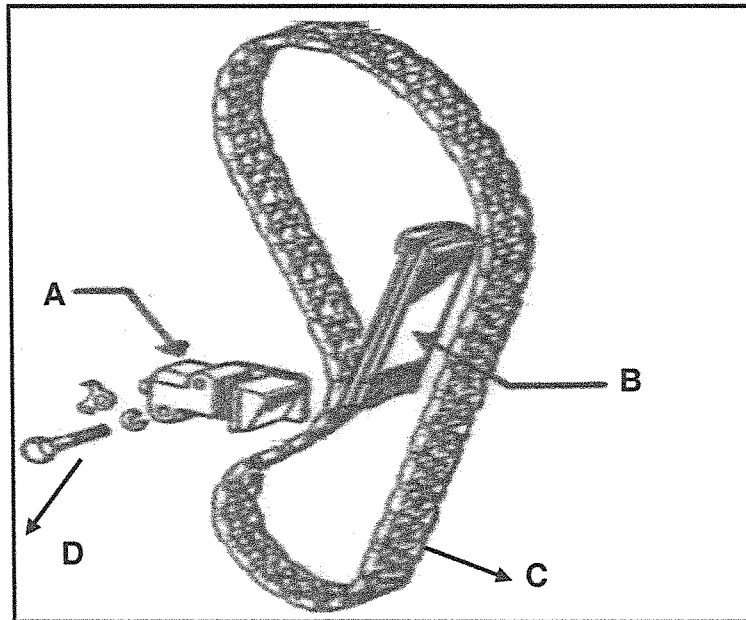

FIGURE 1
- 1.3 FIGURE 1 below, shows a component of an engine. Name the parts marked (A–D) in the ANSWER BOOK.